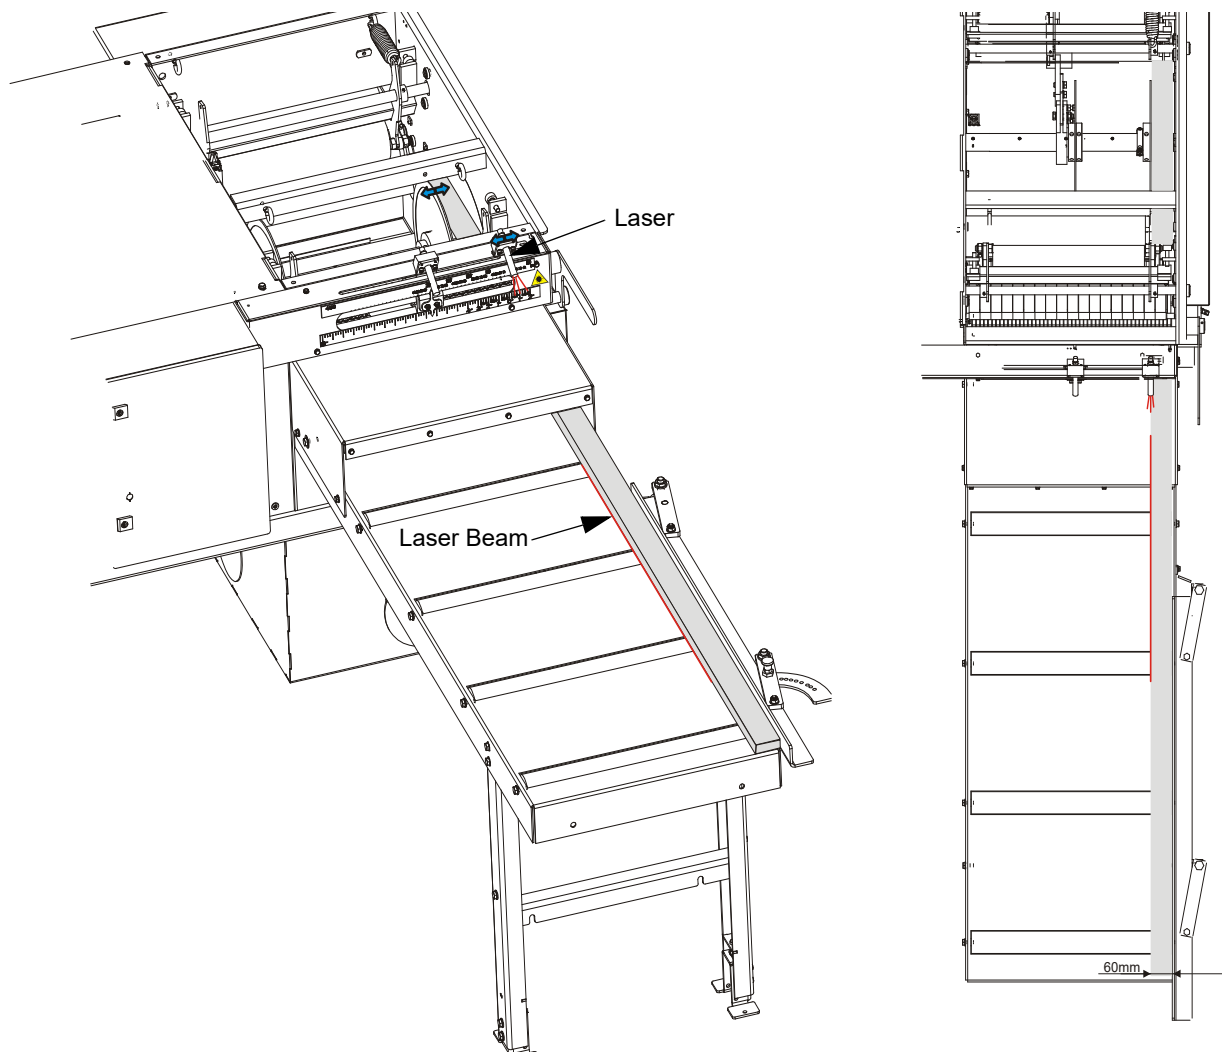

FIG. 6-8
3. Place a 60mm wide bar along the outside edge of the blade and so that the bar is aligned with the 0 mark on the scale and the bar meets the fence. See Figure 6-8.
See Figure 6-8.